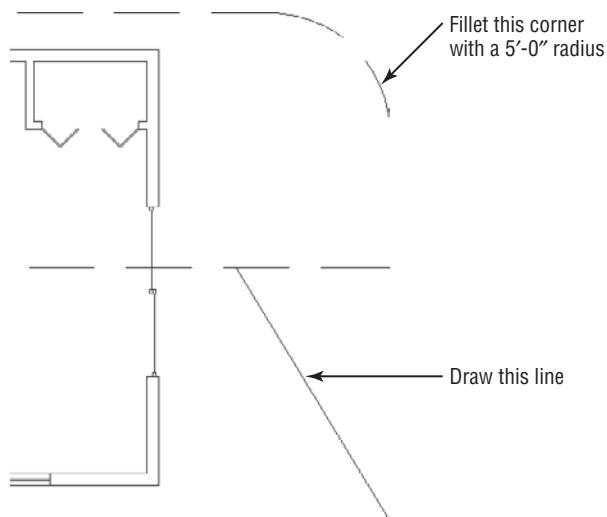

FIGURE 12.32 The right end of the cabin after some temporary changes are implemented
5. Activate the Nearest osnap, and pick a point on the roof's ridgeline. The right end of the cabin should look like Figure 12.32.